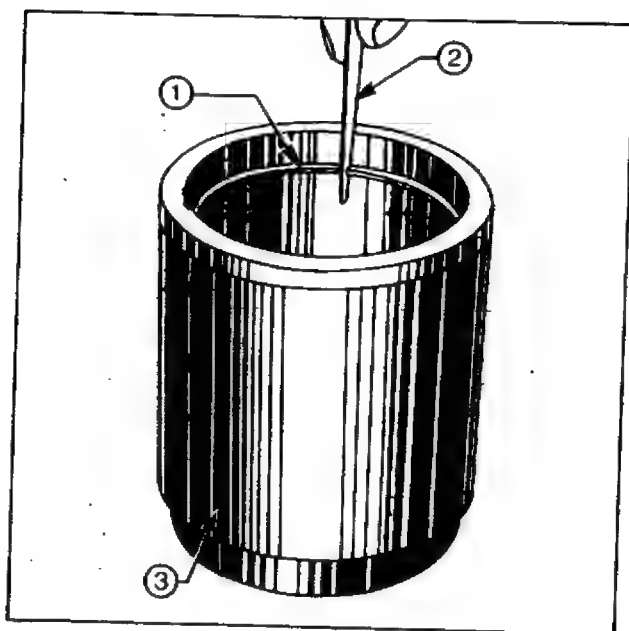

Fig. 11
3. Check each piston ring gap. Place each ring in turn into the cylinder and centralise if necessary with the piston. Check the ring gap (see Fig. 11), with those given in the Specification.